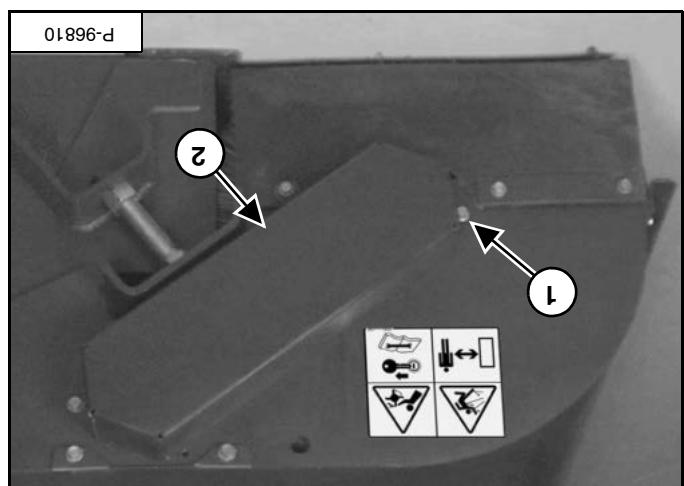

Figure 106
Remove the chain cover (item 2) [Figure 106]. Remove the bolts (item 1) [Figure 106] from the chain cover.